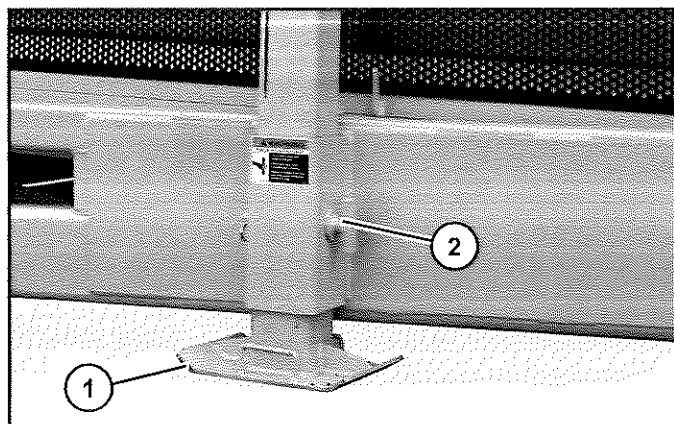

Figure 13
5. After the pivot plate is installed, the landing legs must be lifted for operation. Manually unpin the landing legs (Item 1), slide them up, and repin (Item 2) the landing legs to their highest point (Figure 13).